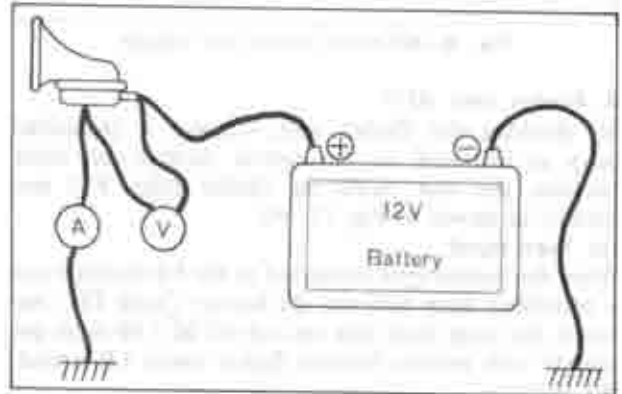

Fig. 15-39 Adjusting horn
2. Connect the ammeter and volt-meter as shown in Fig. 15-39. Turn the adjusting screw until the current flow is 1.5~2.5 amperes at 12 volts.